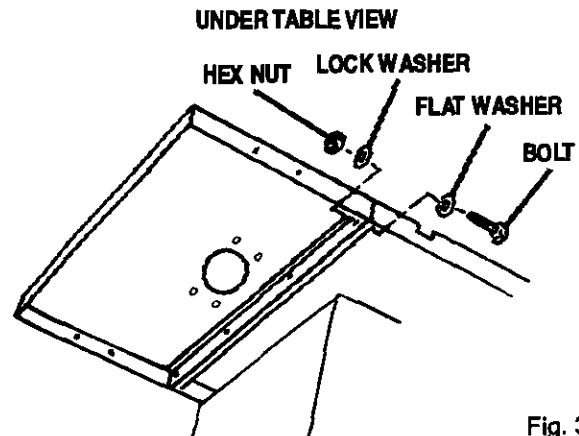

Fig. 3
- With the assistance of another person, position router extension so that the four holes along the edge line up with the four holes in the main table. Feed a 5/16-18 x 1-1/4 in. bolt through each hole as shown in Figure 3 and attach washers. Using an adjustable wrench, tighten the 5/16-18 nuts securing the router extension to the main table.